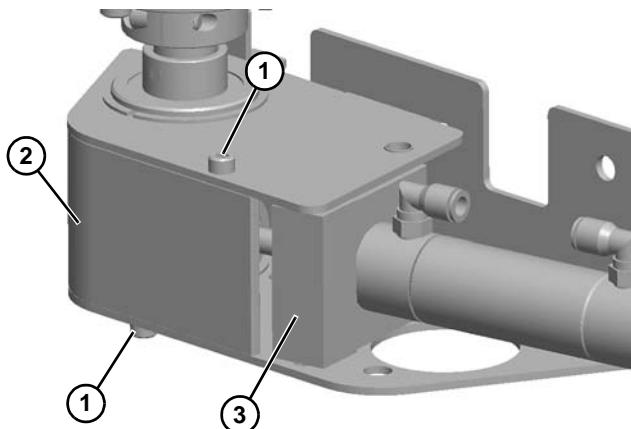
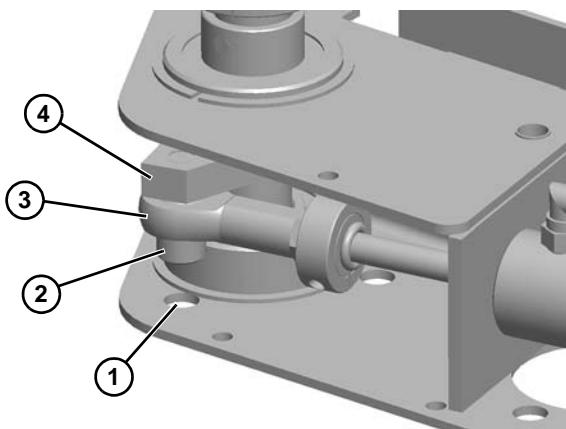

Figure 68
Figure 69
2. Using an allen wrench, remove two socket head screws (**Figure 68, item 1**) securing bottom guard (**Figure 68, item 2**) to the top and bottom plates.
3. Remove cover (**Figure 68, item 3**) from cylinder assembly.
4. Feed allen wrench through access hole (**Figure 69, item 1**) in bottom plate and remove socket head screw (**Figure 69, item 2**) securing eye bolt (**Figure 68, item 3**) to the arm block (**Figure 69, item 4**).